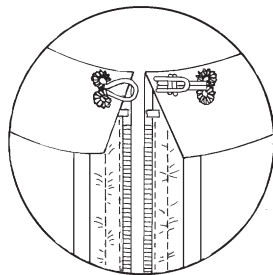

Fig. 14-5
2. Match the garment edges. Position a round eye so the loop extends $\frac{1}{8}$ inch (3 mm) beyond the edge. (When the hook and the eye are attached, the garment edges should meet exactly.) Sew the eye in place, using small stitches. Secure the thread, and clip close to the fabric. (Fig. 14-5)